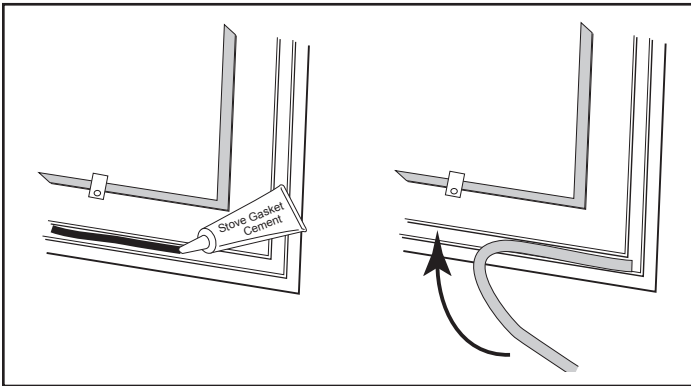

**Figure 3.5** - Lay a bead of gasket silicone or cement then press gasket in place.
5. Lay an unbroken 1/8" (3 mm) bead of silicone or cement in the newly-cleaned channel. (Figure 3.5)
6. Starting at one end, press the gasket into the channel. (Figure 3.5) Ensure a good joint where the gasket meets before trimming any excess. Do not overlap the gasket ends or leave ends with ragged edges.